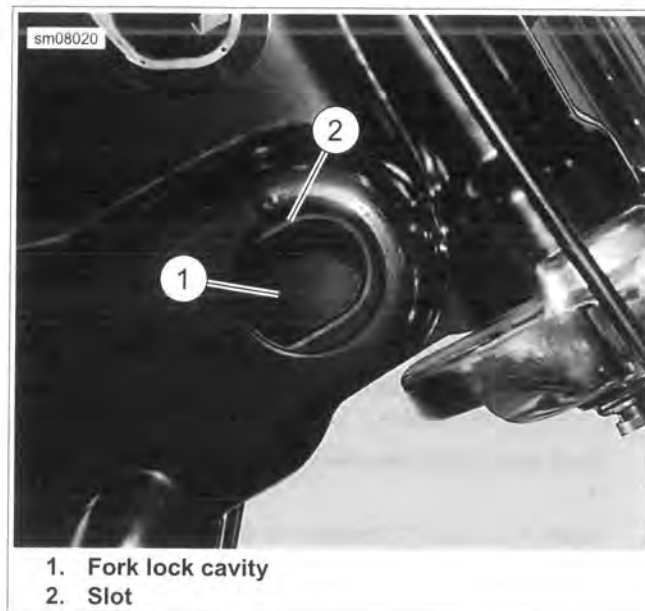

Figure 2-167. Fork Lock Cavity
2. Install face nut on fork lock (2). Turn face nut clockwise until it bottoms on fork lock.
4. With fork lock boss (3) facing front of vehicle, install fork lock into frame.
5. Install plug into fork lock boss cavity (4).
6. See Figure 2-167. Align flats on fork lock with slots (2) in fork lock cavity (1).